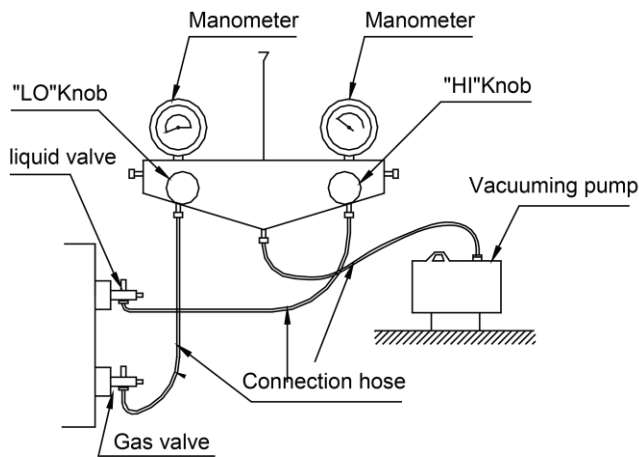

Fig.36
- (1) Confirm outdoor liquid and gas valves are closed. Air purging from the nozzle located on liquid and gas valves by vacuum pump. See Fig.36.